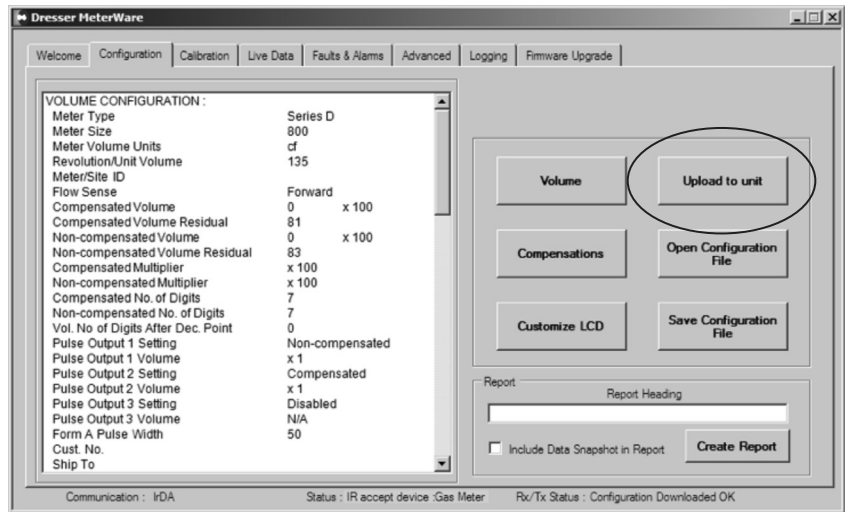

Figure 3 - Configuration screen in Dresser MeterWare
- Once back on the **Configuration** screen (Figure 3), select **Upload to unit**.